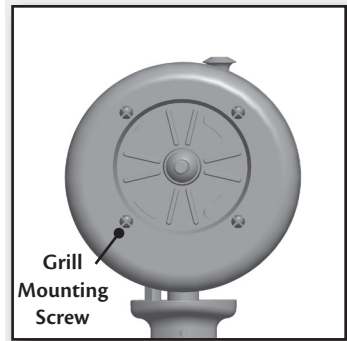

Figure 11
1. Remove the four rear grill mounting screws from the motor housing. Figure 11.